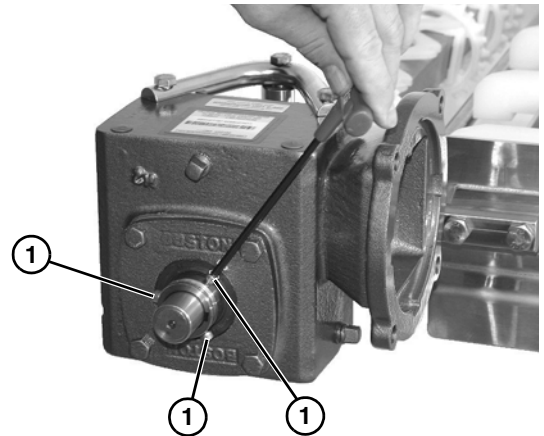

Figure 55
3. Using a hex wrench, loosen the allen head screws (**Figure 55, item 1**) that connect the gearmotor to the drive spindle. Repeat on opposite side of gearmotor.